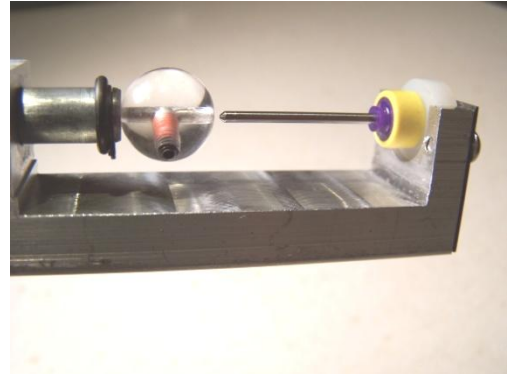

Fig 4
- 4 Press the release button to retract the plunger and ball. See Fig. 4